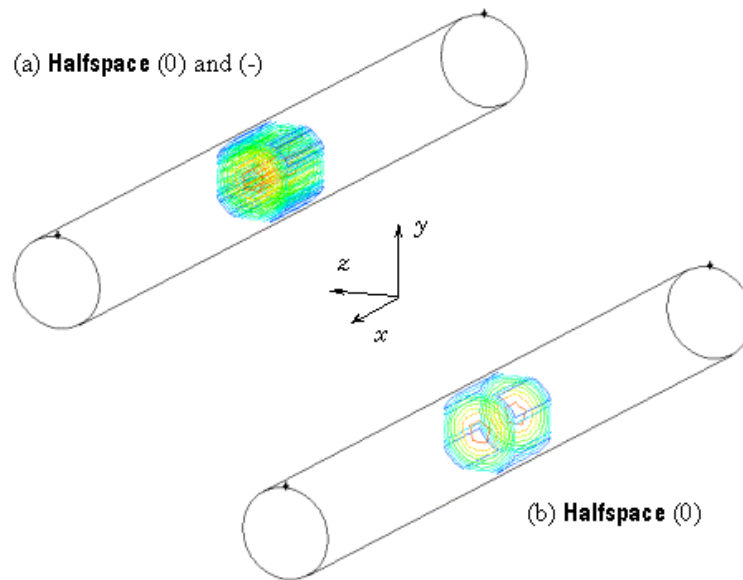

Figure 9.5.12: Effect of Halfspace Options on a Cube
The effect of the Halfspace specification for a cube is shown in Figure 9.5.12, which differ only with respect to their Halfspace specification. Both objects display wire-isosurface and velocity-magnitude contours.
The cube object shown in Figure 9.5.12 (a) is specified using the Halfspace (0) and (-) options, therefore the object shows wire-isosurface contours within the cube as well as on its surface. The cube object shown in Figure 9.5.12 (b) is specified using only the Halfspace (0) option, therefore the wire-isosurface contours appear only on its surface.
The effect of the **Halfspace** specification for sphere objects is identical to that for cube objects (see Figure 9.5.12).